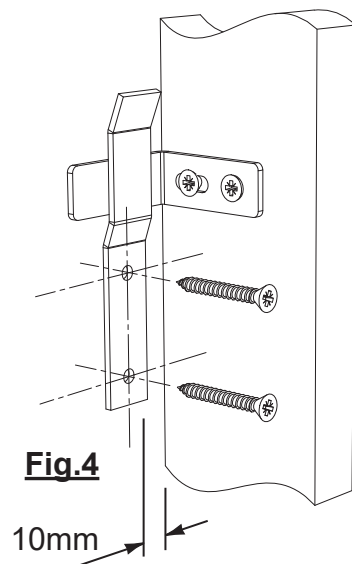

Fig.4
3. With the mantel in position. Lightly scribe the wall in line with outer edges of the mantel. Lift the mantel away from the wall. Measure inwards from the previously scribed line the thickness of the mantel leg plus 10mm. See **Fig.4**
4. Fix the wall brackets (C) in place using the appropriate fixing dependent on the type of wall (Fixing are not supplied). Ensure mantel brackets (B) will fall halfway between the folds on the wall brackets (C). See **Fig.4**
6. Lift the mantel onto the wall brackets (C) and confirm it is securely held in place. If any adjustment is required take the mantel off the wall and adjust using the slots on the mantel brackets (B).